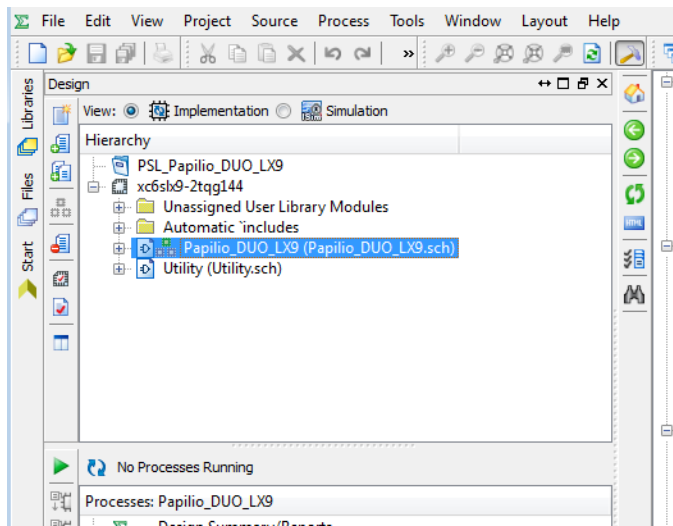

Figure 6-16 *Open the schematic*
1. In the Design→Implementation→Hierarchy view in ISE, double-click “Papilio_DUO_LX9 (Papilio_DUO_LX9.sch),” as shown in Figure 6-16. Here’s where the magic begins. DesignLab has created your top-level schematic starting point for you. This top-level schematic is really a functional block diagram of your design. Each symbol has full HDL under it describing the design of the IP block it represents.